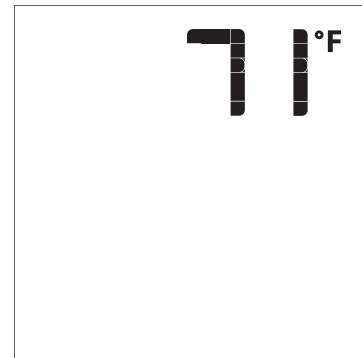

Figure 22
4. With the system ON , press the ON/OFF Key on the Transmitter. The Transmitter LCD display will show the room temperature. **See Figure 22.** At the same time the Receiver will turn off the appliance.